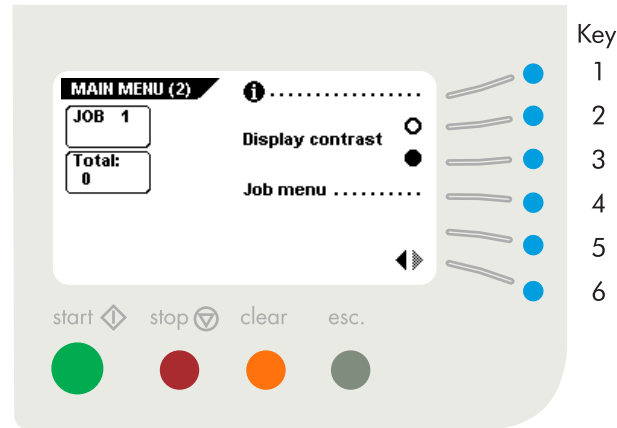

Fig. 9
The main menu consists of two menus, "main menu (1)" and "main menu (2)". After pressing key 6 in the "main menu (1)", the display will show the "main menu (2)", as shown in fig. 9.
- job information (key 1), press key 6 to go back to the "main menu (1)" (the job information function is available in all the menus where the symbol is shown).
- go to the "other job" menu (key 2).
- go to the "test run" menu (key 3).
- go to the "counters" menu (key 4).
- go to the "AutoSet™" menu (key 5)
- go to the "main menu (2)" (key 6).
The "main menu (2)", as shown in fig. 9 shows 5 different functions:
- job information (key 1).
- display contrast lighter (key 2).
- display contrast darker (key 3).
- go to the "job menu" (key 4) (only for authorized personnel).
- back to the "main menu (1)" (key 6).